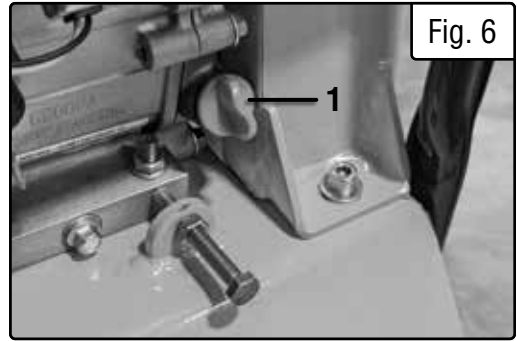

Fig. 6
2. Remove the oil filler cap or dipstick (Fig. 6 - 1) from the engine.